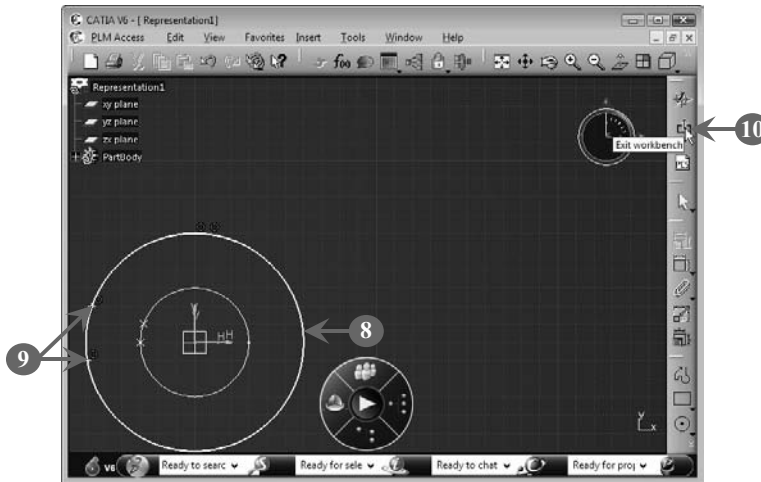

FIGURE 5.99
8. Draw a circle, which works as the second section curve for the multi-sections surface to be created (Figure 5.99).
9. Create two points on the second section curve (as done for the first section curve) that can be used to create the closing point and the guide curve on the second section curve (Figure 5.99).
10. Click the **Exit workbench** button on the **Workbench** toolbar to exit the Sketcher workbench, as shown in Figure 5.99: